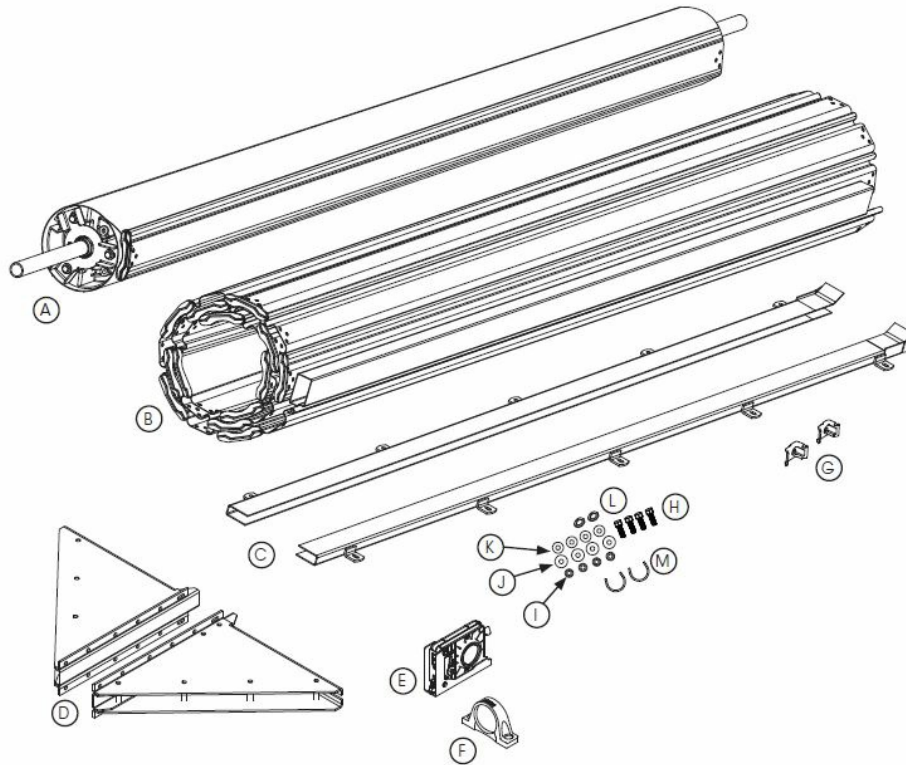

Fig: 1.4.2
- **headroom** – A minimum headroom is required for all shutters. Refer to Fig 1.4.2- 1.4.5 for measurements. If